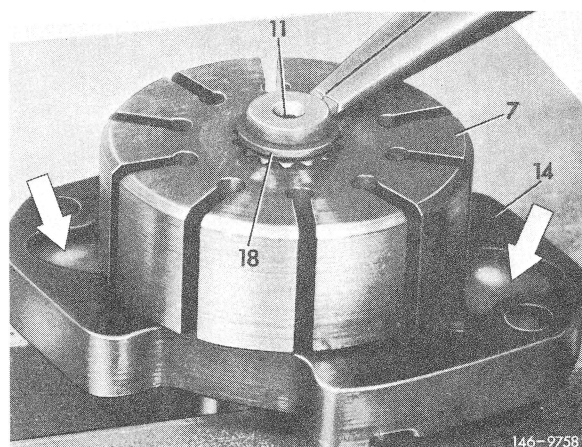

Fig. 2
1 Place wear plate (14) with recesses (refer to arrow) facing splining on drive shaft (11) (Fig. 2).
2 Place rotor (7) on splining of drive shaft (11) and insert locking ring (18) (Fig. 2).